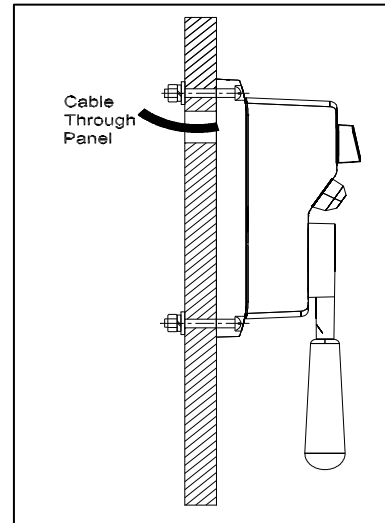

Figure 2 - Cable Through Bulkhead or Deck
- Will the cabling go through a bulkhead or deck, or will it be routed along the surface? See figures 2 and 3, next page.